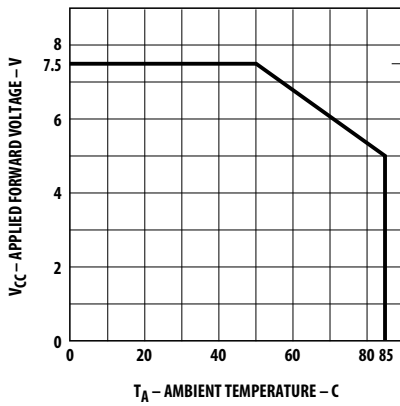

Figure 3. Maximum allowed applied forward voltage vs. ambient temperature  $R\theta_{JA} = 175^{\circ}\text{C}/\text{W}$ . 5 volt devices.
- Derate from TA = 50°C at 0.071 V/°C, see Figure 3.